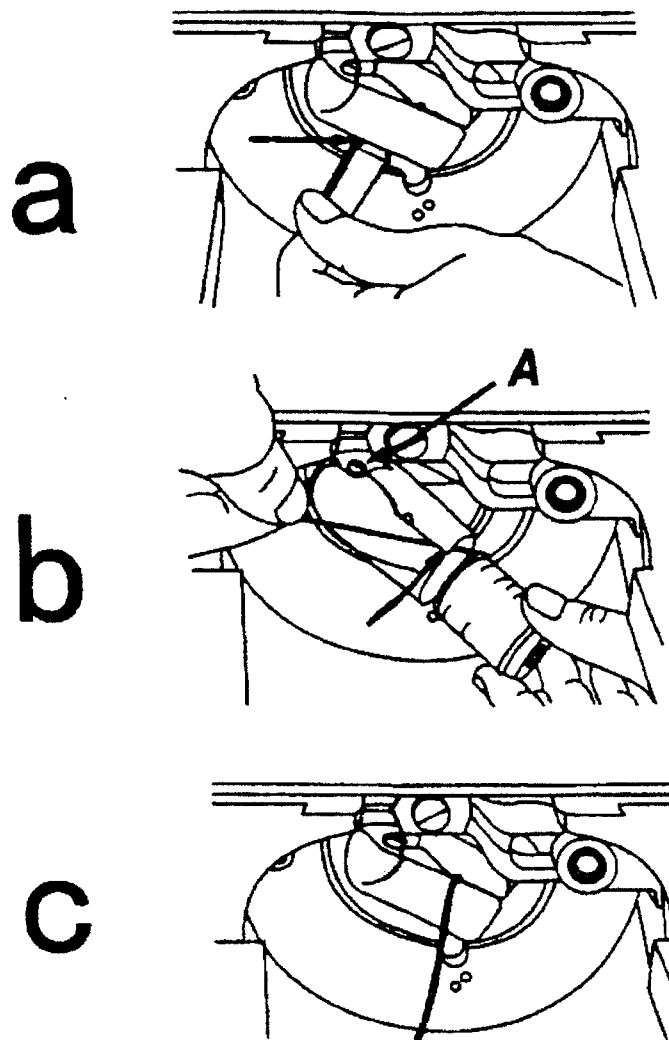

Fig.8
13.1 Rotate the balance wheel bringing the needle bar to its lowest position. Then with the curved part of the shuttle cylinder opener, which should conform to the curve of the shuttle, as shown in Fig.8 a, insert the small end of shuttle cylinder opener into slot in the spring latch under the shuttle cylinder.
13.2 Hold the bobbin between the thumb and index finger of the left hand, at the same time the thread is drawing off from the underside toward the right as shown in Fig.8 b. Place the bobbin in the cylinder as far as it will go, draw the thread in the slot in the cylinder and under the tension spring, then into the delivery eye, then push the cylinder back until it is locked by the spring latch, and allow about 3 inches of thread to hang free from the shuttle so that it can be drawn up trough the throat plate.